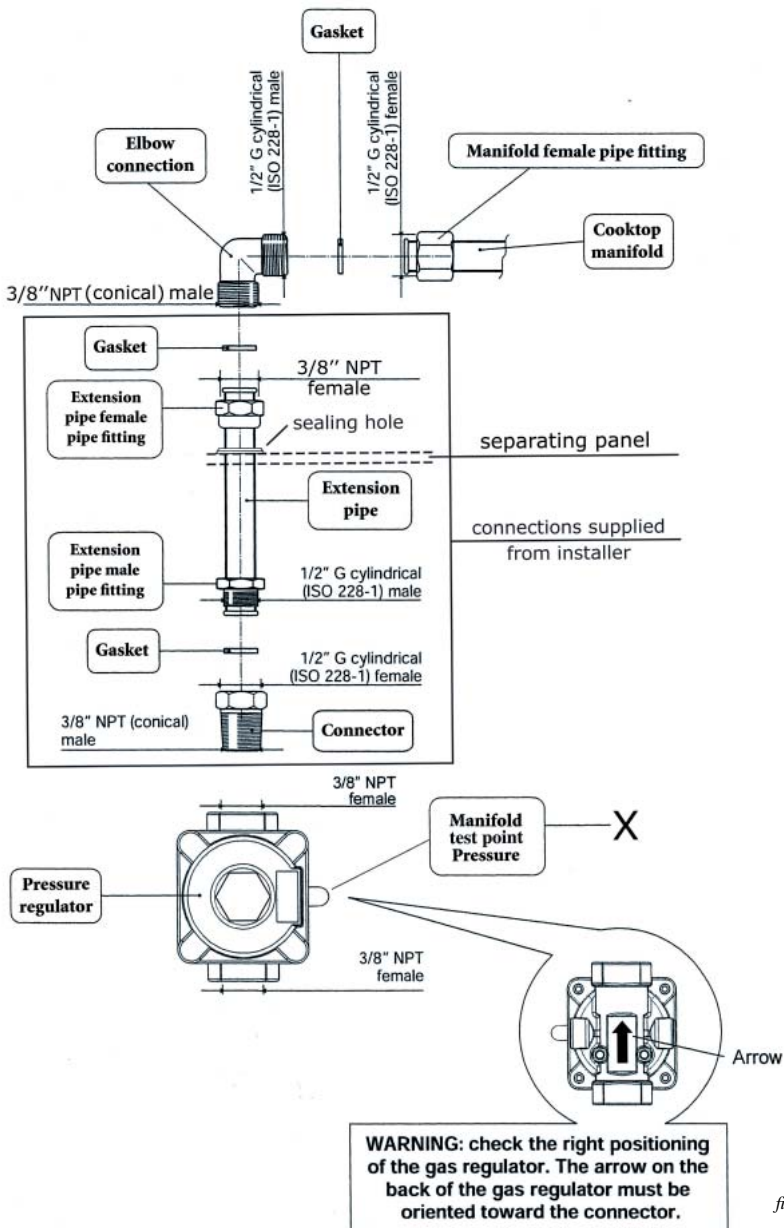

fig.5.2
### 2. Pressure Regulator (figures 5.2)
d) Manifold pressure should be checked with a manometer; NATURAL gas requires 5,0" W.C.P. and LP/PROPANE requires 10,0" W.C.P. (see Figure 5.2-X)